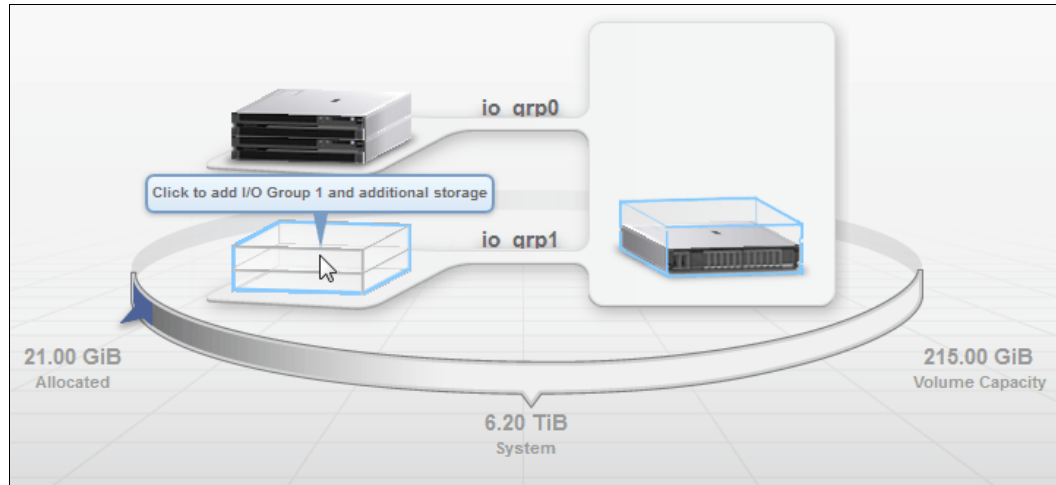

Figure 5-18 IBM FlashSystem V9000 with unconfigured second building block
1. Hover over the non-configured I/O group 1 (Figure 5-18) to get a hint about how to configure it.